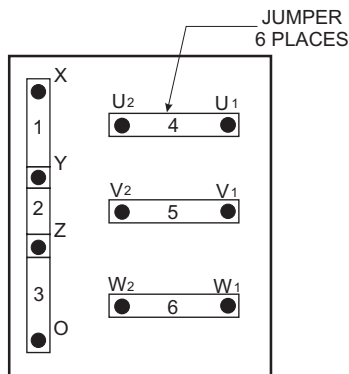

Figure 24. Voltage Change-Over Board
1. Jumper the voltage change-over board for 240V operation as shown in Figure 24.
1. Make sure the voltage change-over board is jumpered for 240V operation as shown in Figure 24.